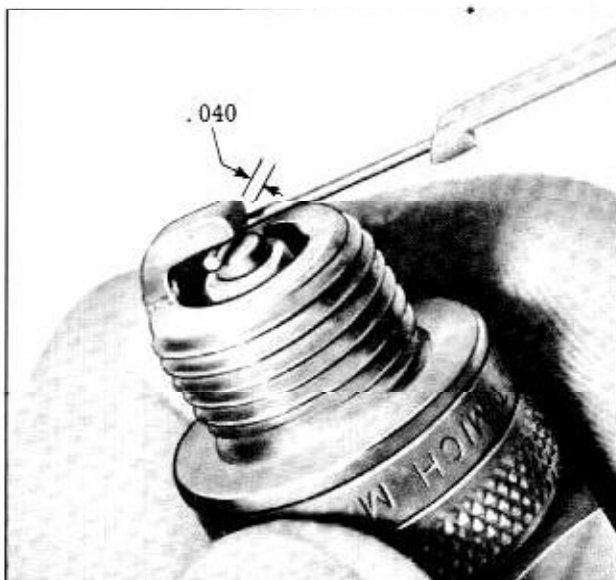

Fig. 13-52 Adjusting Spark Plug Gap
The spark plug gap should not be measured with flat feeler gauge stock but should be measured with a wire gauge as shown in Fig. 13-52.
3. Set the spark plug electrode gap at 0.040" using a wire gauge as shown in Fig. 13-52.